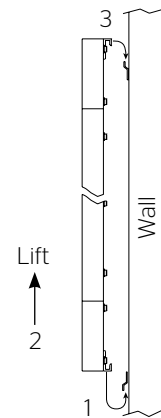

Figure 4
4. Attach the small wall bracket to the wall. Refer to Figure 4 for proper orientation. Do not tighten the screws completely. The bracket should slide up and down easily.
6. Hang the screen on the brackets by hooking the bottom of the frame onto the small wall bracket and lift up until you can hook the top of the frame on the top bracket. Push down on the frame to seat it on the brackets. Refer to Figure 4.